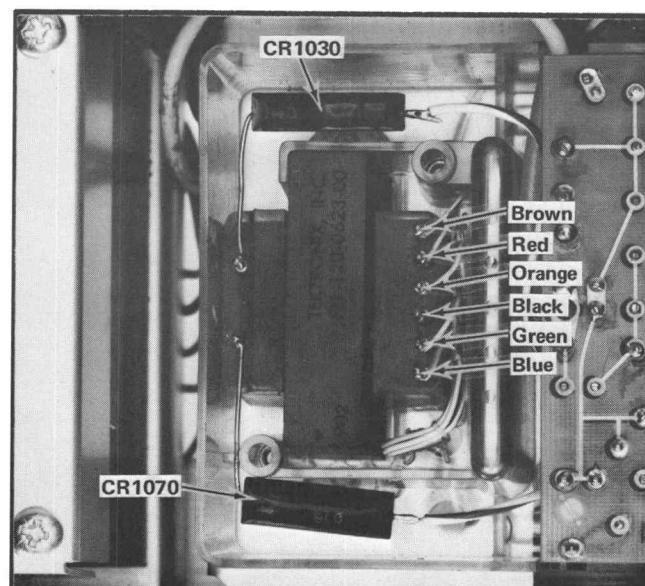

Fig. 4-5. Wiring color code for high voltage transformer.
5. To remove the complete wiring assembly from the high-voltage compartment, unsolder the two diodes from the high-voltage transformer (see Fig. 4-5). The other leads